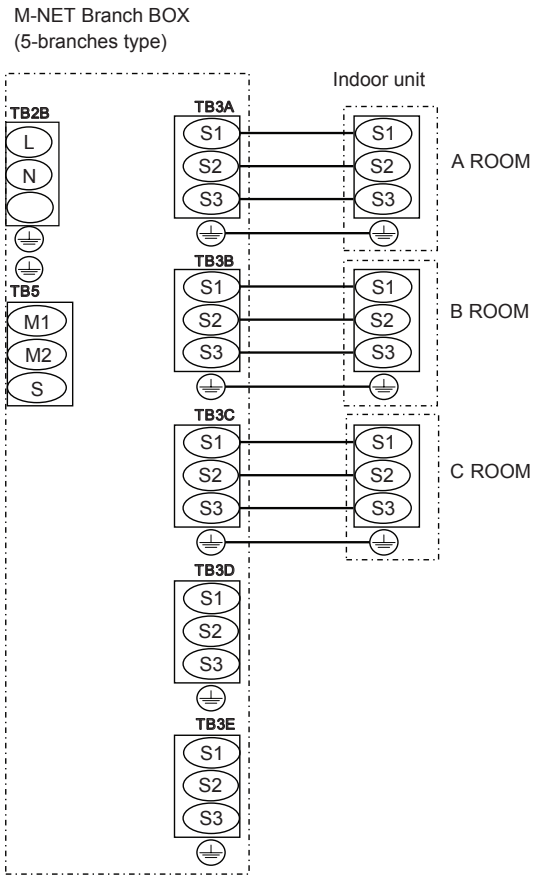

Fig. 8-9 Recommended Connection Method
8.2. External wiring procedure (Fig. 8-8, Fig 8-9)